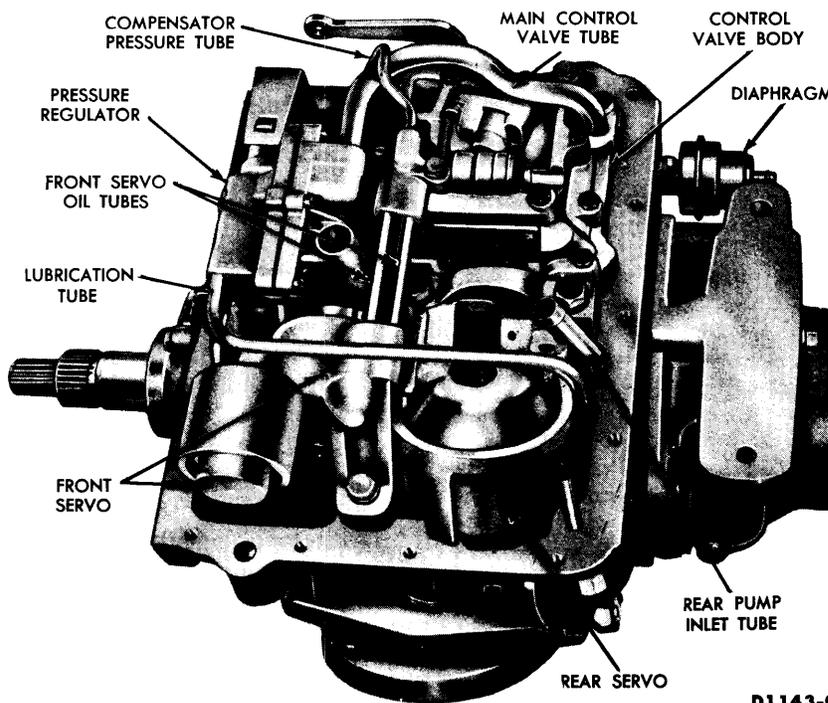

FIG. 2—Hydraulic Control System Parts
6. Remove the two tubes which connect to the pressure regulator and the control valve body. **The regulator lubrication tube (Fig. 2) does not have to be removed.**
8. Remove the three control valve body attaching bolts, and lower the valve body while pulling it off of the front servo oil tubes (Fig. 2). **Be careful not to damage the valve body or the tubes.**
3. Remove the pressure regulator lubrication tube (Fig. 2).
5. Remove the attaching bolts from the front servo (Fig. 2), hold the strut with the fingers, and remove the servo.
10. Install the pressure regulator lubrication tube (Fig. 2).